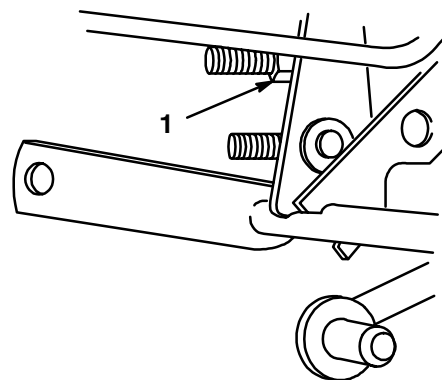

Figure 9
1. Adjust by turning transport height nut, (Fig. 9) on lift mechanism, clockwise to raise or counterclockwise to lower mower.